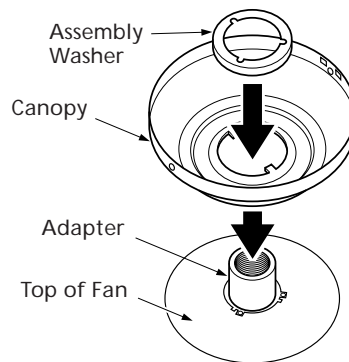

Figure 3b - Placing Canopy and Washer Over Adapter
1. Fit the canopy over the motor hanger adapter as shown in Figure 3b. Make sure the canopy fits
2. You will find a large assembly washer included with the fan. Place the washer over the adapter and canopy as shown in Figure 3b.